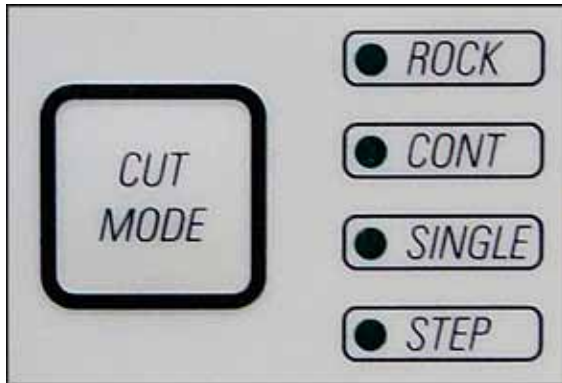

Fig. 18
- Using the **CUT MODE** button, select the desired operating mode, **CONT**, **SINGLE** or **STEP**, on the control panel (Fig. 18).